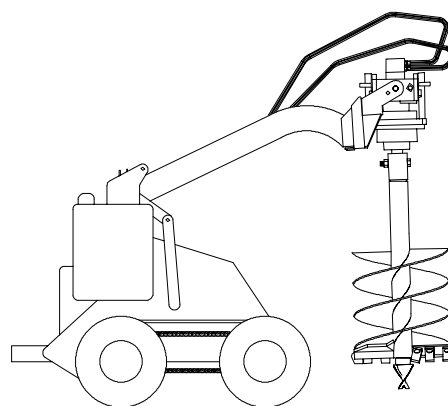

Figure 7
14. Raise the auger free of the ground (Fig. 7).
15. When the auger is vertical, tilt the attachment plate rearward, until the drive head contacts the attachment plate to stabilize the auger and keep it from swinging freely (Fig. 7).